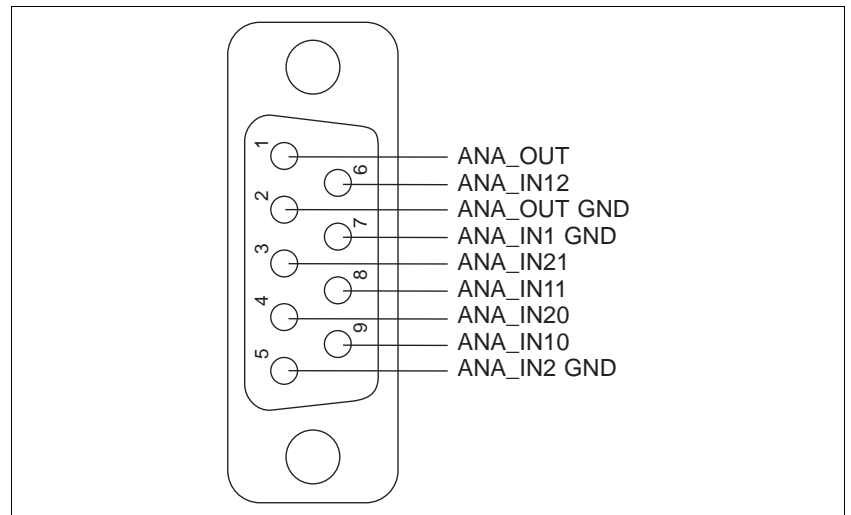

Fig. 2-16 Interface connector – device end
1. Solder the litz wires to the connector as illustrated in fig. 2-16.